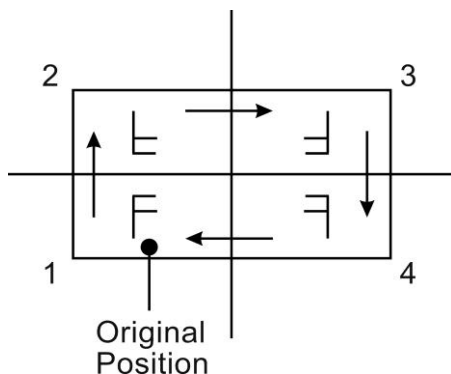

Fig. 11
- (4) Press **Reverse** button to control the direction of the real-time image. The real-time image will do a horizontal reverse or vertical reverse (*See Fig. 11*).